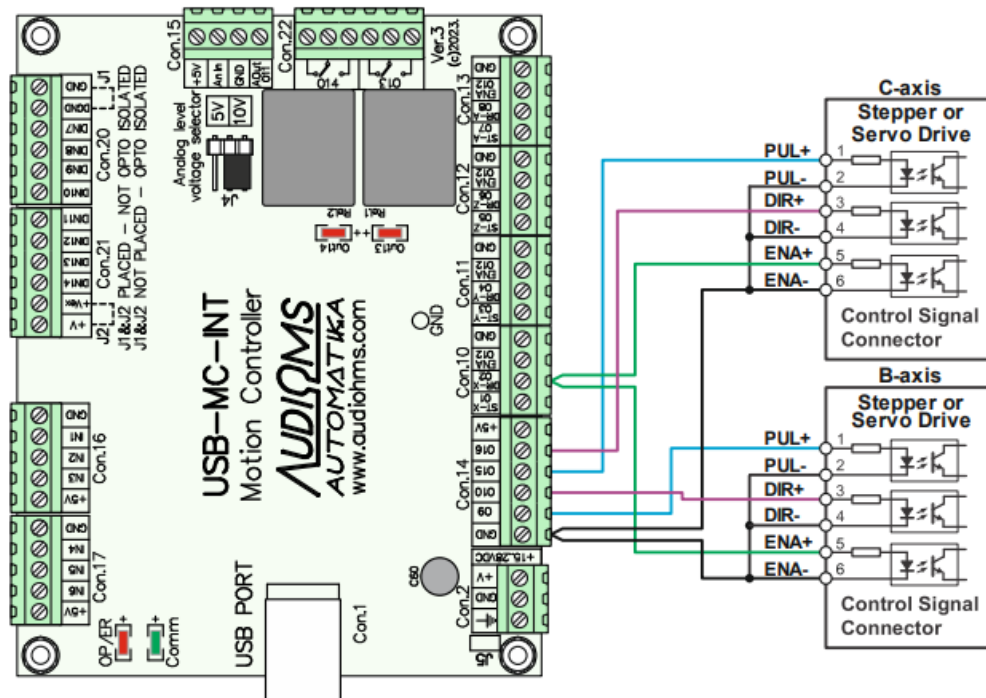

Figure 8.9
Optionally, it is possible to connect additional two axes i.e. additional two drives from other manufacturers to the USB-MC-INT motion controller (Figure 8.9).
- General-purpose digital outputs can be used for the generation of STEP/DIR signals for additional axes (fifth and sixth axis) (Figure 8.4 and Figure 8.9), for activation of external relays etc.